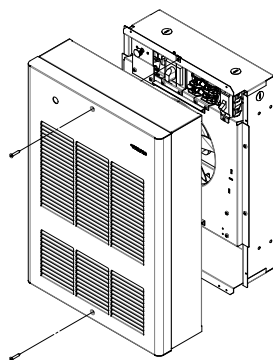

FIG. 8
2. Unscrewed the two (2) screws holding the grille (see figure 8) and remove.
8. Put back the grille and tighten with two (2) screws removed previously (see figure 8).
2. Unscrew the two (2) screws holding the grille (see figure 8).